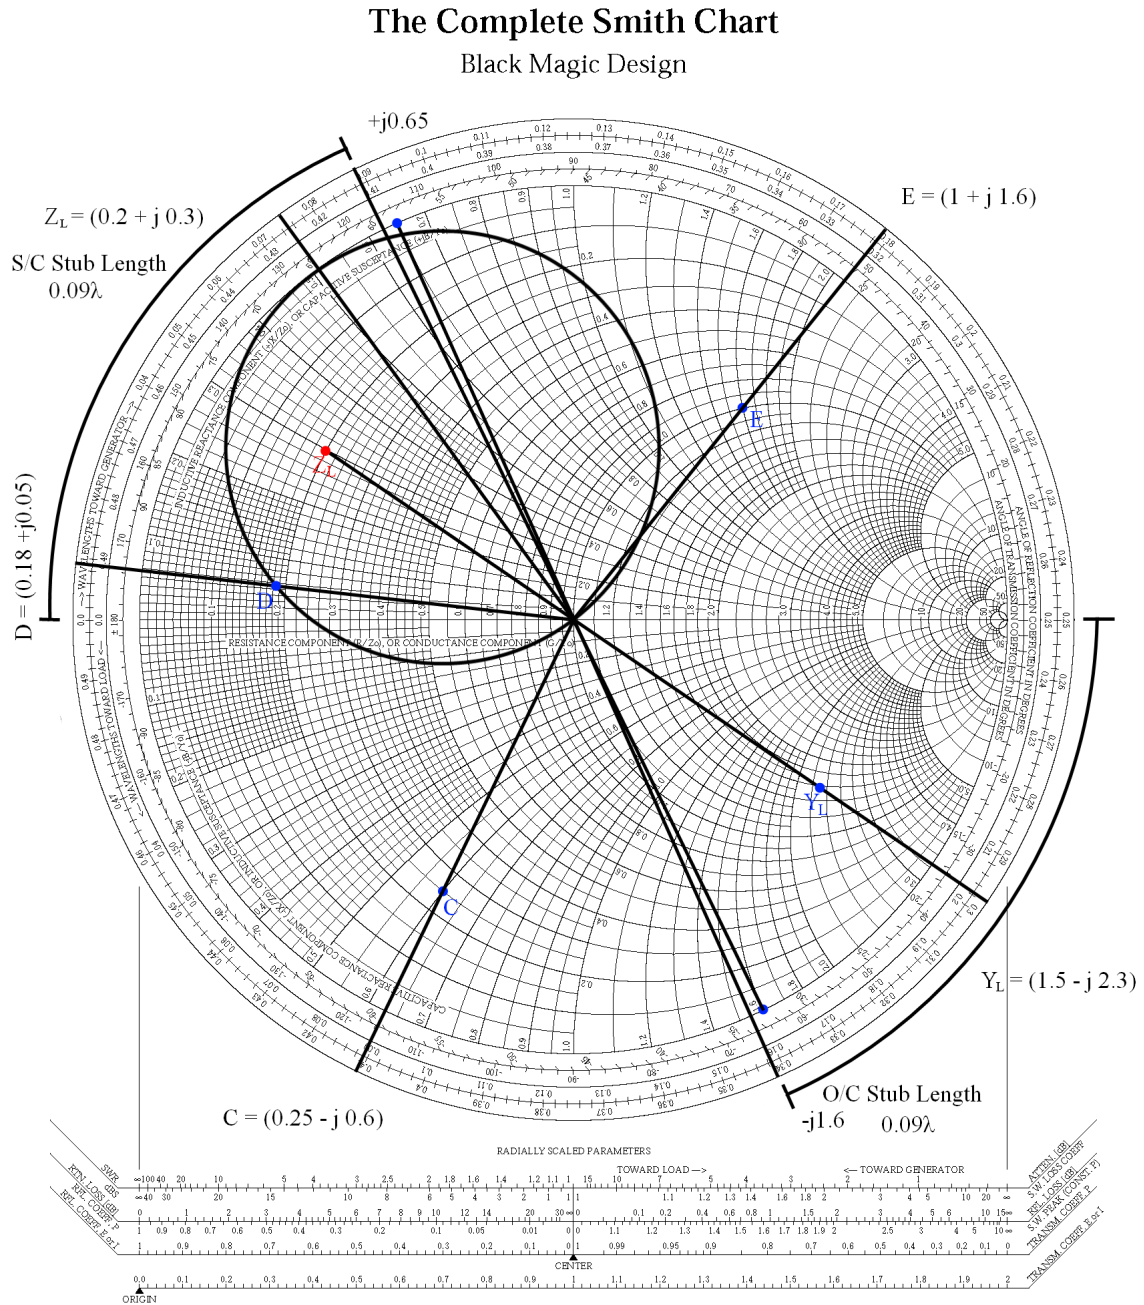

Figure 11.1: Chart 9 : Manual Chart Solution
- Plot the normalised load impedance $Z_L = (0.2 + j0.3)\Omega$. (Point A in figure 11.1, and Point 1 in diagram).
- Move the unity conductance circle from point 3 to point 2 on the diagram by moving it towards the load (round a circle of constant radius) by 0.175λ . The unity conductance circle is presently at 0.25λ and wavelengths towards the load are increasing so $0.25\lambda + 0.175\lambda = 0.425\lambda$. Draw a line from the center of the chart to 0.425λ on the *towards load* scale. Draw a circle with radius equal to the radius of the unity conductance circle such that the circumference of the circle passes through the middle of the chart, and the center of the circle is on the line between the center of the chart and 0.425λ on the towards load scale. Have a look at the Smith chart in figure 11.1 if this is not clear.